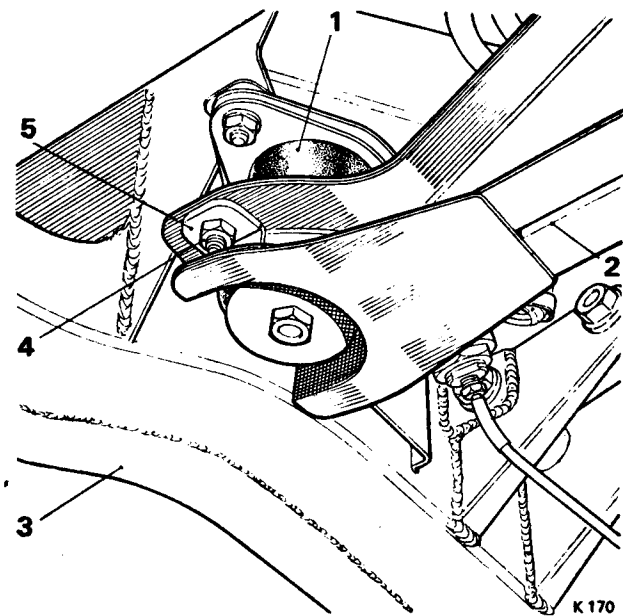

FIG. J13 TORQUE ARM FRONT MOUNT
3. Remove the two nuts, bolts and heavy duty washers securing the torque arm to the mount on the rear suspension cross-member (see Fig. J13).
2. It is essential that the heavy duty washers are fitted to the front mount (see Fig. J13).